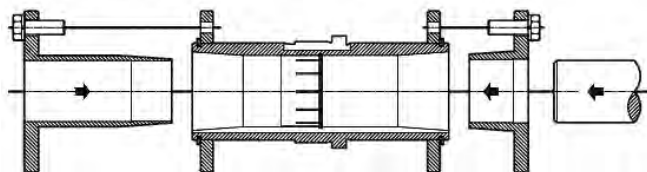

Figure 7 – Short Shaft Bushing and Output Hub Assembly
- Install the tapered bushing wedge into the hollow bore of the reducer from the same side as the long bushing will be installed. When installing the tapered bushing wedge into the reducer hub, install the flange end first so that the thin taper is pointing outwards towards the long bushing as shown in Figure 7. The wedge is properly installed when it snaps into place in the reducer hub.